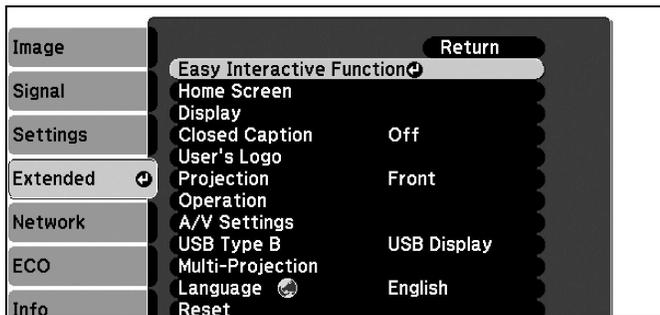

Figure 17
3. Select **EASY INTERACTIVE FUNCTION** from the **EXTENDED** menu. (See Figure 17)